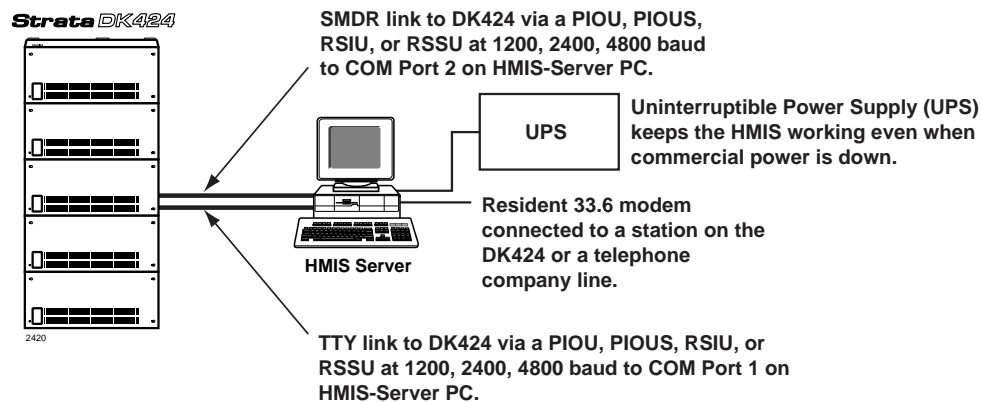

Figure 44 HMIS Server PC
- ♦ An HMIS server acting as a single front desk terminal (see Figure 44 below).